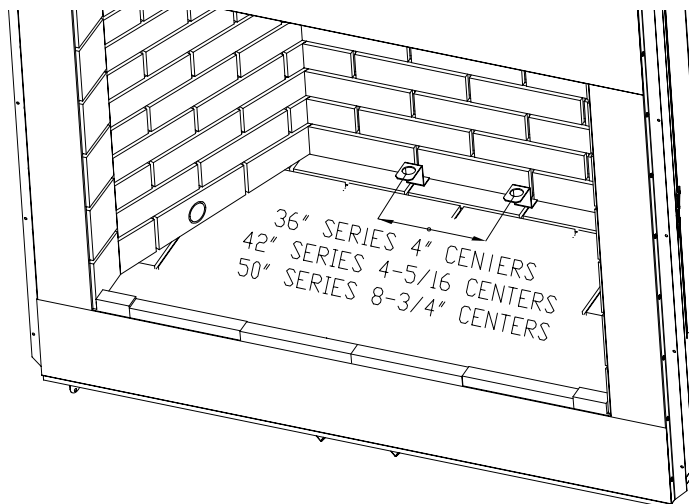

Figure 36 - Installing Grate Retainers
1. Place the provided grate retainers on the hearth as shown in Figure 36. The back of the retainer will be flush with the rear firebrick wall. Mark the center of the hole on the hearth with a marker.
2. Position "Z" shape retaining brackets on top of the notched area toward the rear of the bottom brick panel. Grate retaining bracket should be positioned as shown in Figure 36, page 17.